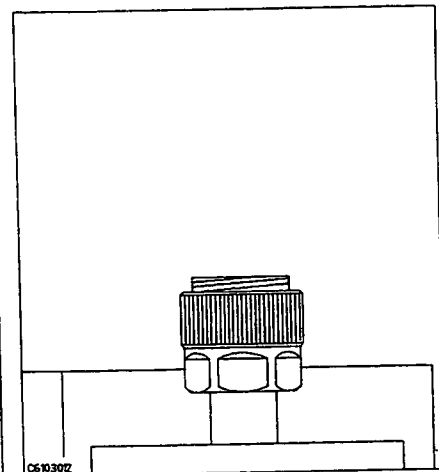

Figure 4-6.
4. Verify that the connector sleeve is extended fully as shown in Figure 4-6.